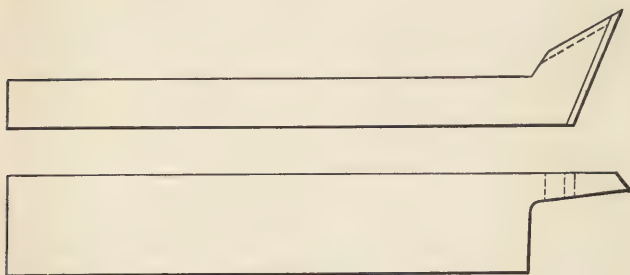

Fig.41
**Centering Tools.**—In Fig. 41 is shown a centering tool which differs from the ordinary tool of this description in having the end bent at an angle of 45 degrees. It is the only centering tool the machinist will use after once trying it. A straight centering tool